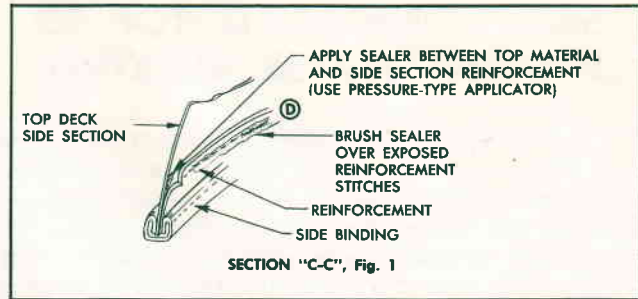

Fig. 6 Sealing Side Section Reinforcement Seam
6. With top in same position as in step 5, apply two beads of sealer to side section reinforcement seam. See "D" in section "C-C", figure 6. At this time, seal only forward horizontal portion of seam extending from front roof rail to folding top No. 2 roof bow. To seal vertical portion of seam rearward of top No. 2 roof bow, see step No. 11.
- Brush two ribbons of sealer onto side section reinforcement seam in rear quarter area, from folding top No. 2 roof bow down to end of seam. See "D" in section "C-C", figure 6.